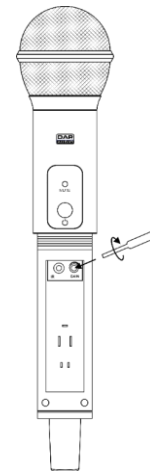

Fig. 09
- 02) Use the included **plastic screwdriver (43)** to set the transmitter's input sensitivity (Fig. 09).